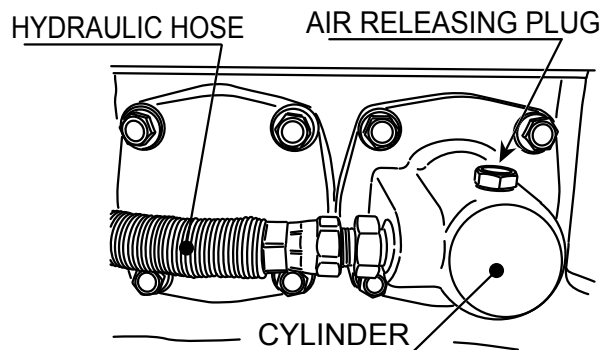

Figure 29. Removing Hydraulic Hose
- Remove the hydraulic hose connected to the cylinder on the vibrator side (Figure 29).
7. Remove the air releasing plug of vibrator cylinder. Oil will then come out from the air releasing plug. After air bubbles stop coming out, reattach the plug. Tighten securely (Figure 29).